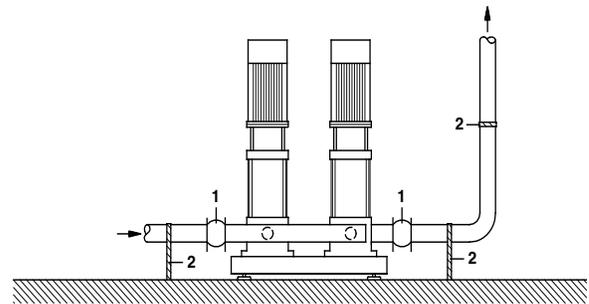

Fig. 4 Installation example with expansion joints and pipe supports
1. The pipes connected to the pump system must be of adequate size. Fit expansion joints in the inlet and outlet pipes to avoid resonance. See fig. 4.
- If the pump system is installed in an apartment complex or the first consumer on the line is close to the pump system, we recommend that you fit expansion joints on the inlet and outlet pipes to prevent vibration being transmitted through the pipes. See fig. 4.
The expansion joints and pipe supports shown in fig. 4 are not included in the standard pump system.